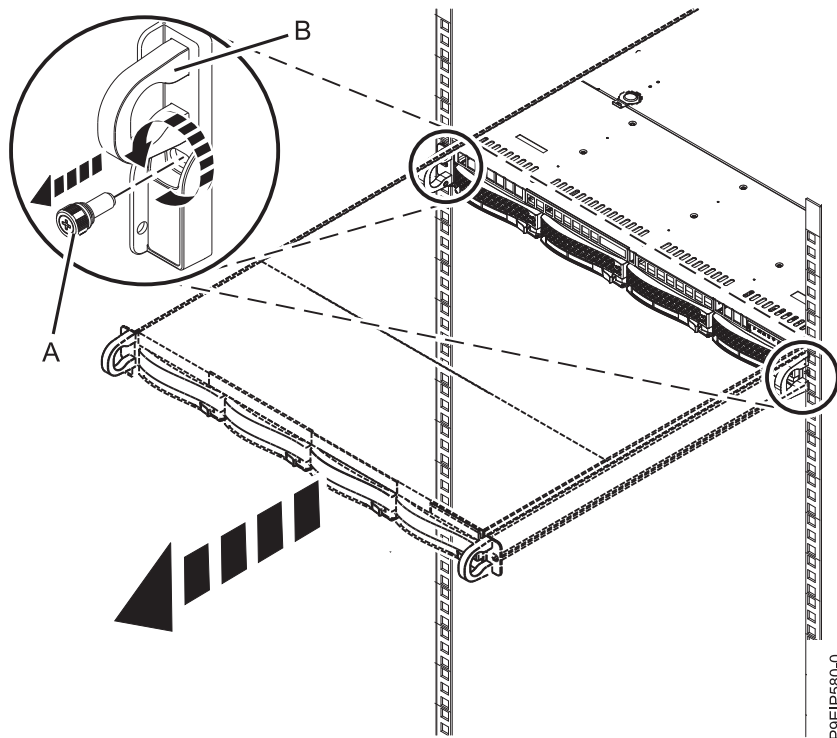

Figure 91. Removing the front screws and removing the system from the rack
2. Remove the front screws that secure the system to the rack from both sides of the system as shown in Figure 91.